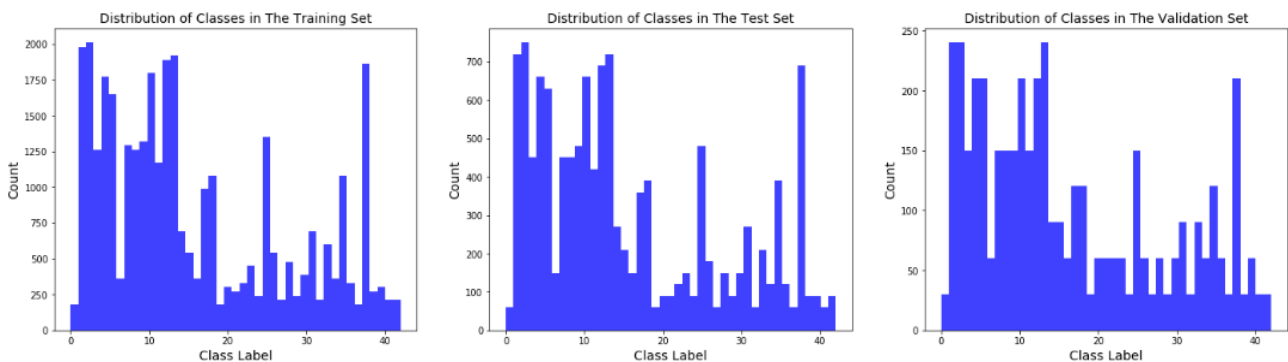
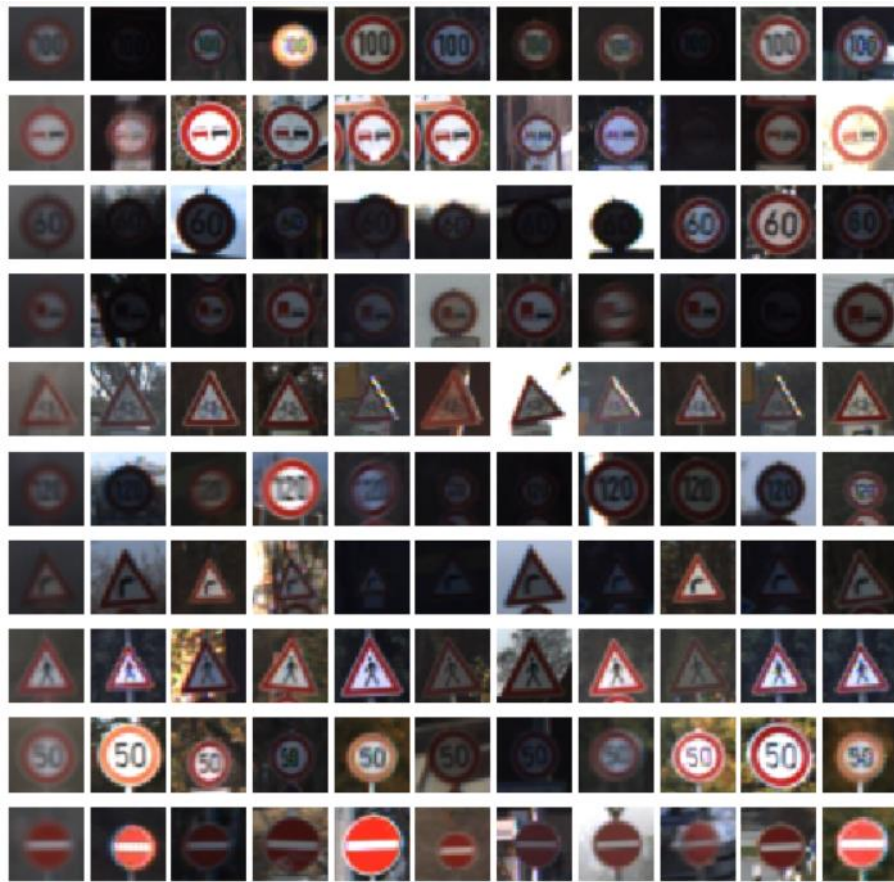

Figure 1: Distribution of classes in the training, test and validation sets
Figure 2: Sample images from the dataset
1. **Dataset Exploration:** German traffic sign dataset consists of 32x32 color images and 43 classes. There are 34799 training images, 12630 test images and 4410 validation images. Figure 1 shows the distribution of classes for the training, test, and validation sets. There is clearly an imbalance in the amount of data for each class. Figure 2 shows 10 example images for 10 random classes. The first column shows the mean image for the class.